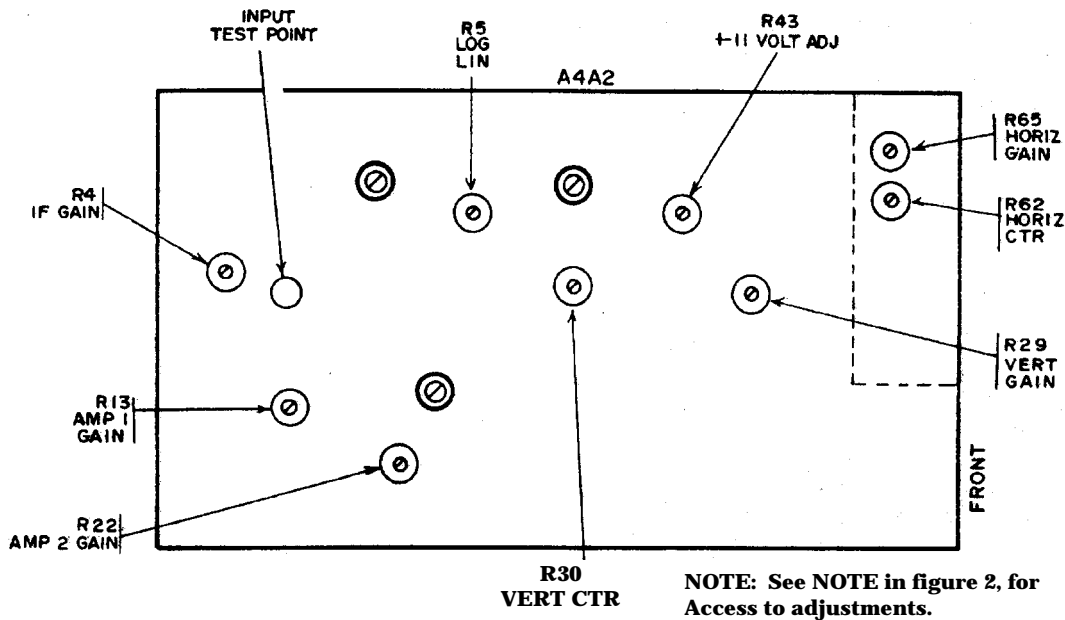

Figure 6. Spectrum analyzer No. 2 - adjustment Locations.
(2) Adjust +11 VOLT ADJ A4A2R43 (fig. 6) for an 11 V indication on digital voltmeter (R).
(3) Adjust VERT CTR A4A2R30 (fig. 6) until bottom of trace indicates -109 dBm (R).
(4) Connect oscilloscope (A11) using probe (B16) to input test point (fig. 6).
(5) Adjust signal generator amplitude for -30 dBm.
(6) Adjust IF gain A4A2R4 (fig. 6) for 0.4 V p-p spike on oscilloscope (R).
(7) Adjust VERT GAIN A4A2R29 (fig. 6) for -30-dBm indication on TI (R).
(8) If bottom of trace does not indicate -109 dBm, repeat **b**(3) above.
(9) Adjust signal generator amplitude to -40 dBm.
(10) Adjust LOG LIN A4A2R5 (fig. 6) for a -40 dBm indication on TI. If a -40 dBm indication cannot be obtained go on to next step (R).
(11) Adjust signal generator to -30 dBm and repeat **b(7)** through (10) above until no further adjustments are required.
(12) Adjust signal generator amplitude for -60 dBm.
(13) Adjust AMP 1 GAIN A4A2R13 (fig. 6) for a -60-dBm indication on TI (R).
(14) Adjust signal generator amplitude for -90 dBm.
(15) Adjust AMP 2 GAIN A4A2R22 (fig. 6) for a -90-dBm indication on TI (R).
(16) Repeat **b(12)** through (15) above until no further adjustments are required.
(17) Adjust signal generator amplitude for -30 dBm and repeat **b(7)** through (16) until no further adjustments are required.
(1) Adjust **HORIZ CTR A4A2R62** (fig. 6) until peak of signal is centered on centerline (R).
(2) Adjust **HORIZ GAIN A4A2R65** (fig. 6) until end of trace is aligned with right edge of bezel.
(3) Repeat (1) and (2) above until no further adjustments are required.